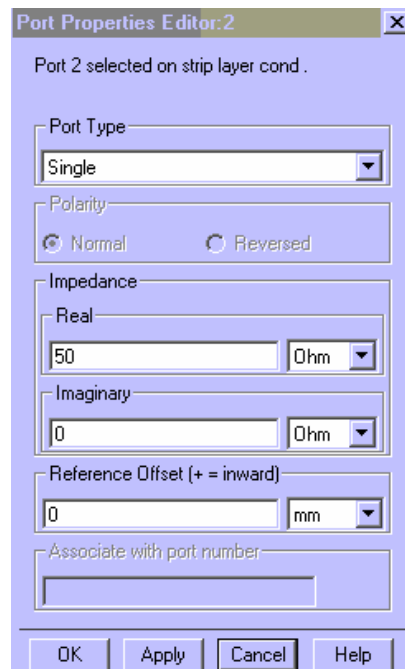

Figure 9. Port property definition.
- g) Select Momentum -> Port Editor. Click on each port and make certain they are specified as shown in Figure 9 and click Apply. (Make sure to do this for both ports.)